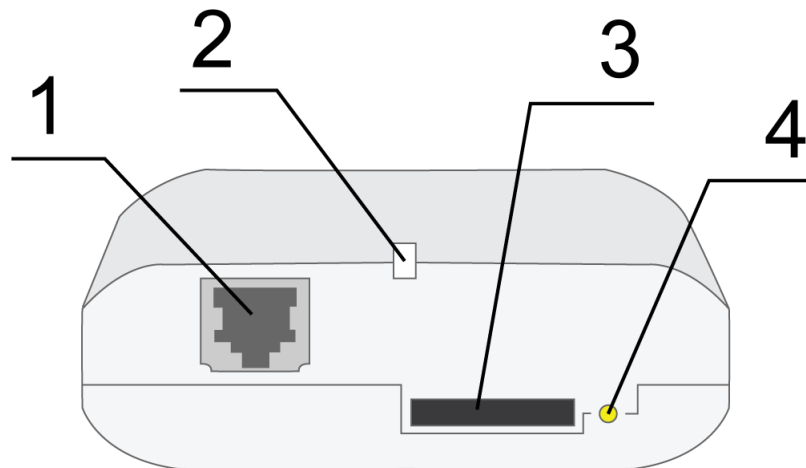
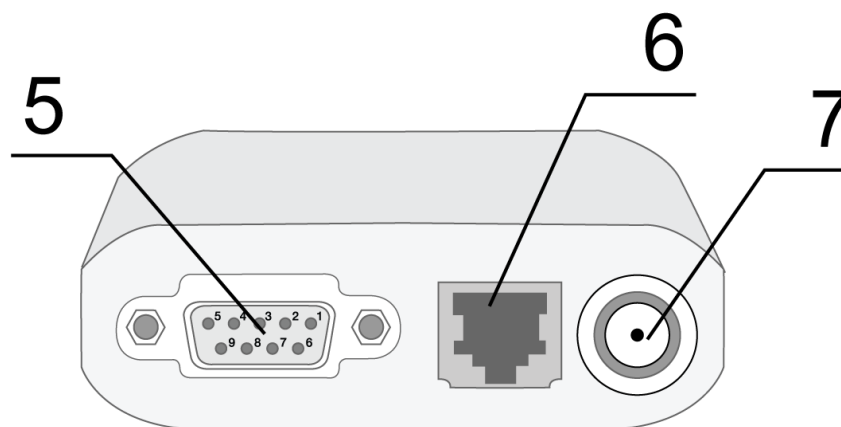

Fig. 2.4.1. Front view
Fig. 2.4.2. Back view
MC52iWDT modem is a compact device in a plastic case. Its appearance is displayed on Fig.2.4.1 and Fig.2.4.2:
The numbers on Fig. 2.4.1 and Fig. 2.4.2 stand for:
- Eject the SIM holder by pressing the SIM card tray ejector button (Fig. 2.4.1)
Connect the GSM antenna and the RS232 commuting cable. Power the modem through the power connector or the umbilical connector (Fig. 2.4.2). The frequent blinking of the green LED indicates that the modem is turned on (Table 2.6.1). Remove the PIN code of the SIM card to complete automatic online registration. After the registration is complete the modem goes into the working mode and green LED blinks less frequently.